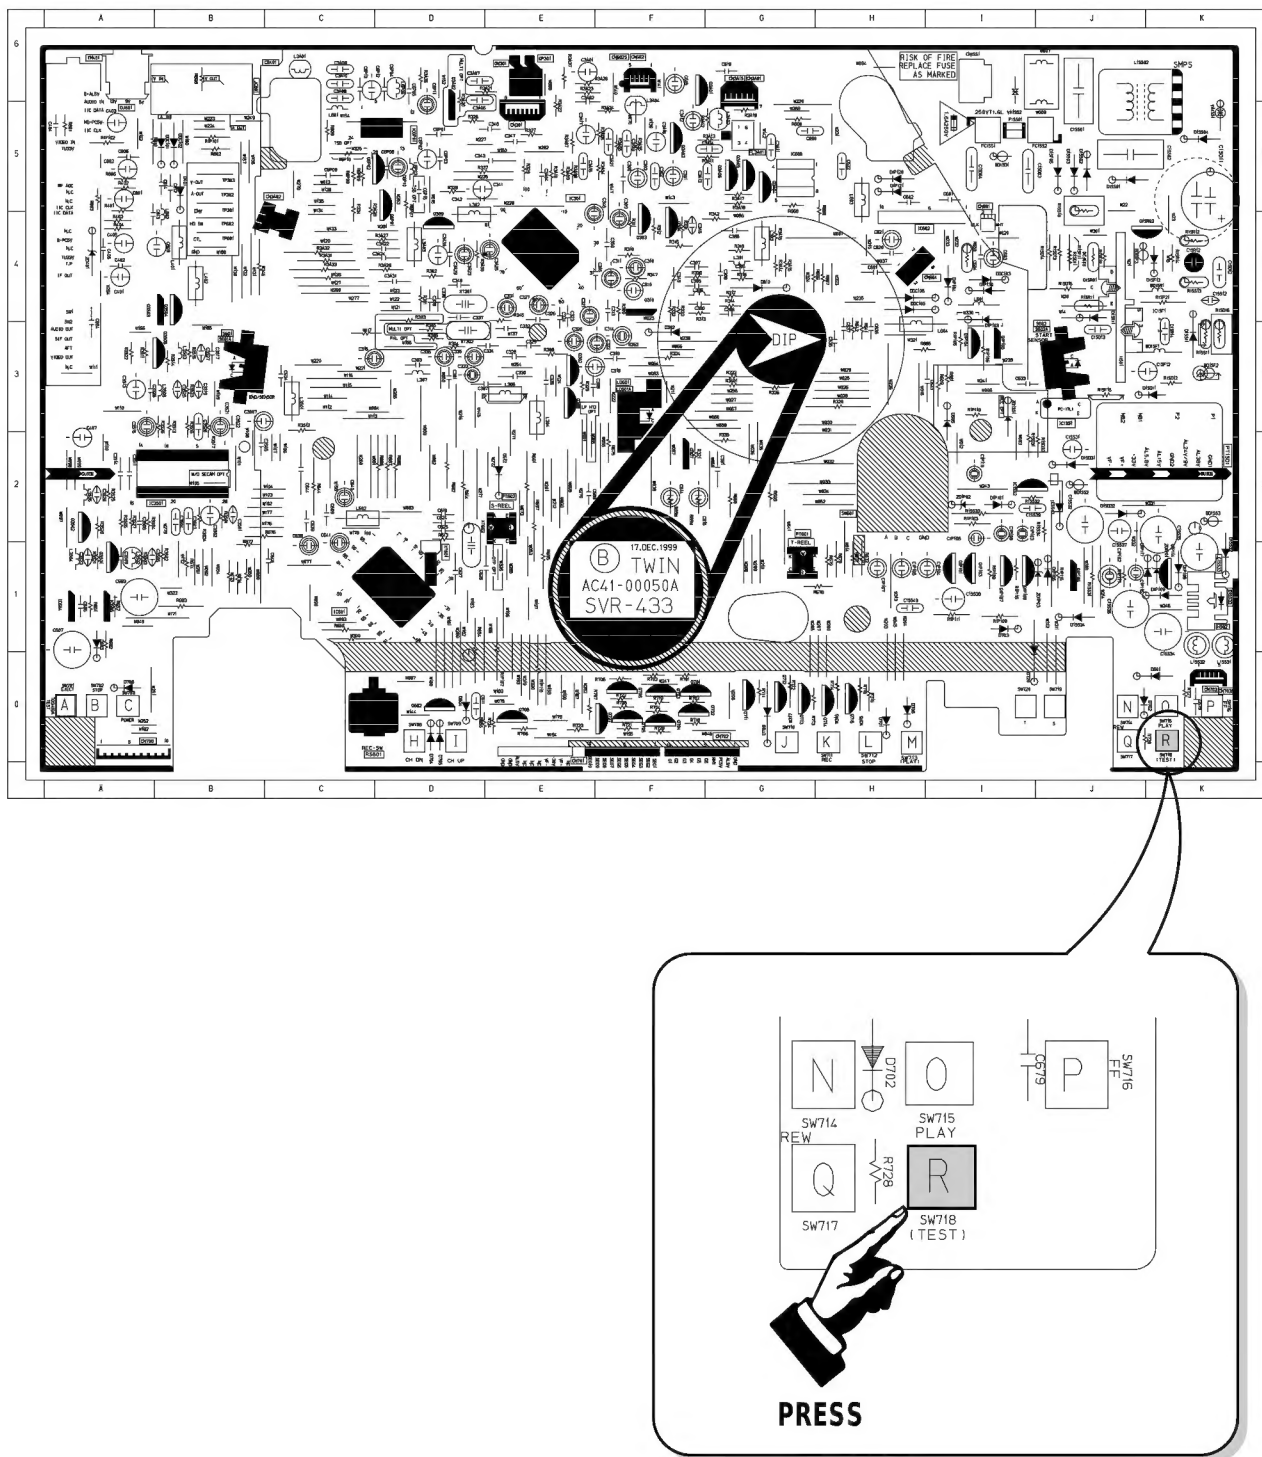

Fig. 2-2 Main PCB (Top View)
- 2) Press the "SW718 (TEST)" button on Main PCB to set the adjustment mode. (See Fig. 2-2)
- 1) Press the "SW718 (TEST)" button on Main PCB to set the adjustment mode. (See Fig. 2-2)